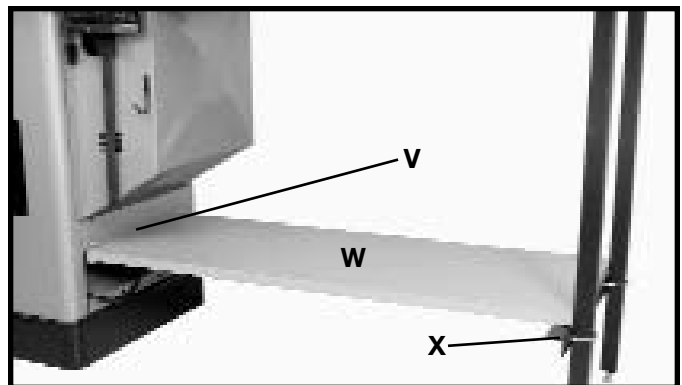

Fig. 18
13. Fasten the other end of lower shelf (W) Fig. 18, to the lower shelf bracket (X), which was assembled to the two legs earlier using two #8 x 7/8" wood screws.